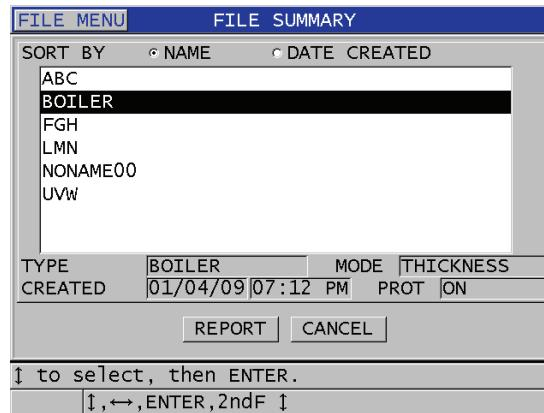

Figure 11-31 The FILE SUMMARY report screen
4. In the **FILE SUMMARY** screen (see Figure 11-31 on page 196):